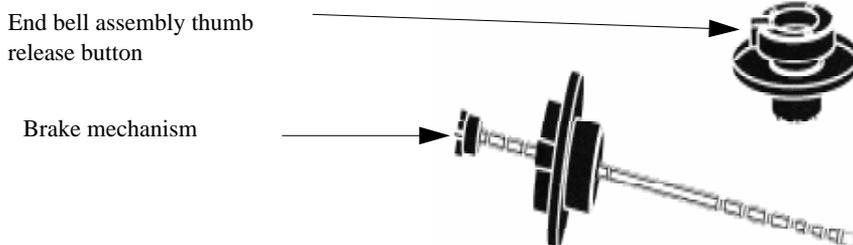

Fig. 2
On the left side of the spool assembly is a brake mechanism and an end bell assembly. On the right side is a spring loaded end bell assembly. As you depress the thumb release button, remove the right side end bell from the shaft. (Ref:Fig.2)
3. Push the thumb release button on the left end bell (next to brake) and adjust the end bell for the desired media width. (**Note special instructions for 305,400 and 406 mm media widths on page 4-4 and 4-5.**) Make slight adjustments with the thumb release button until the end bell assembly locks into the appropriate notch on the shaft. (Ref:Fig.2)
3. Push the thumb release button on the left end bell (next to brake) and adjust the end bell for the desired media width (**Note special instructions for 305,400 and 406 mm media widths on page 4-4 and 4-5**) . Make slight adjustments with the thumb release button until the end bell assembly locks into the appropriate notch on the shaft. (Ref:Fig.2)